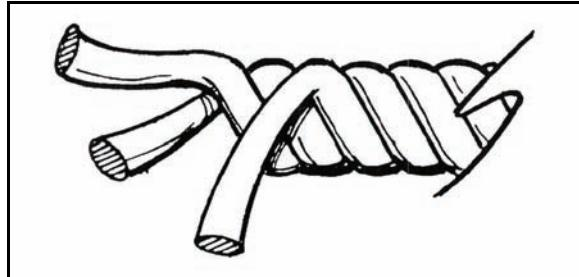

Figure 4-2. Nylon-laid rope.
- (2) **Laid Rope.** Rope constructed from strands of material that are twisted into a rope of a specific diameter (Figure 4-2) is referred to as laid rope. For years the standard workhorse rope for all mountaineering and rappelling operations was 7/16-inch laid nylon rope. These ropes are easy to inspect for serviceability by twisting the fibers, but tend to untwist slightly when under a load. This untwisting can cause kinking and spinning. Laid rope is also highly susceptible to abrasion. Therefore, laid ropes should only be used for rappelling in extreme emergencies. The following specifications pertain to the standard military nylon-laid climbing/rappelling rope: